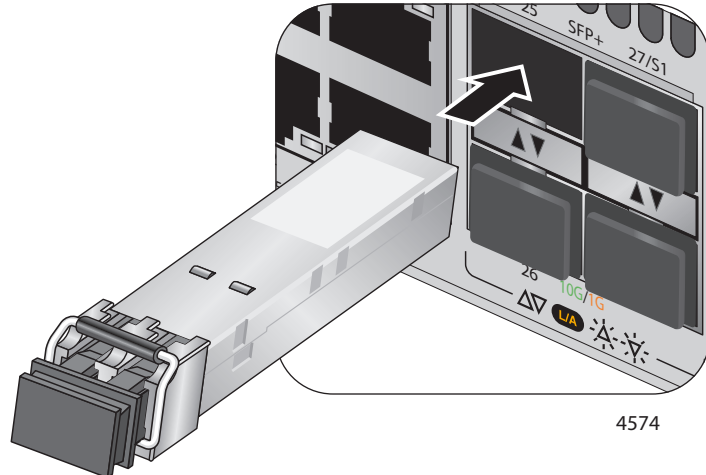

Figure 42. Installing an SFP Transceiver
4. If you are installing the transceiver in a top port, position the transceiver with the Allied Telesis label facing up. If you are installing the transceiver in a bottom port, position the transceiver with the label facing down. Refer to Figure 42.